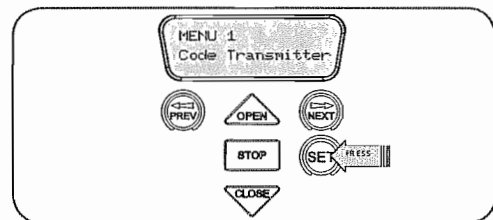

fig 22
1. Press NEXT to navigate to the Menu 1 (Fig. 22).